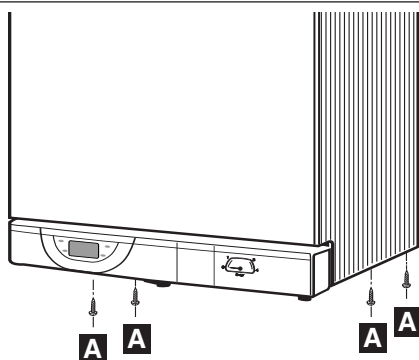

Fig.16
- Tighten the 4 screws located at the bottom as shown in (Fig. 16).